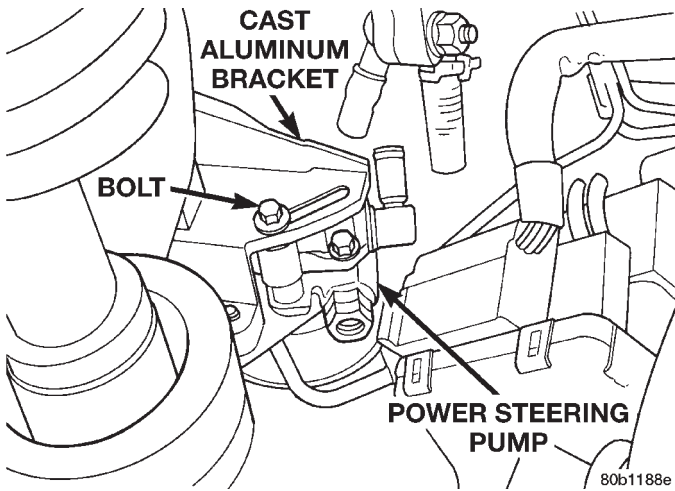

Fig. 6 Power Steering Pump Attachment To Rear Mounting Bracket
- (10) Remove bolt (Fig. 6) attaching back of power steering pump to the cast aluminum mounting bracket.
(5) Loosely install the bolt mounting the power steering pump to its rear mounting bracket (Fig. 6).